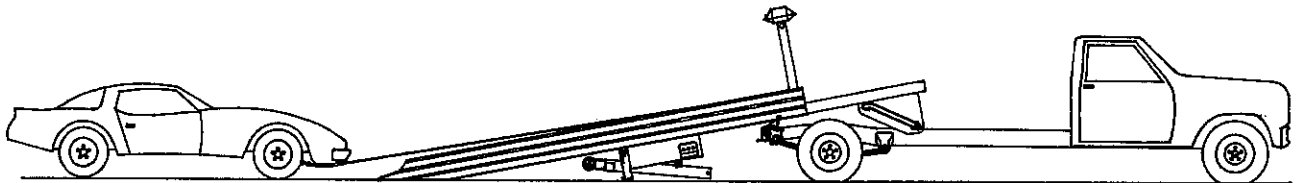

Figure 6-2.10
- 6-2.10 Operate the winch to allow load to be removed from the bed of the LOADOLL. (See fig. 6-2.10)